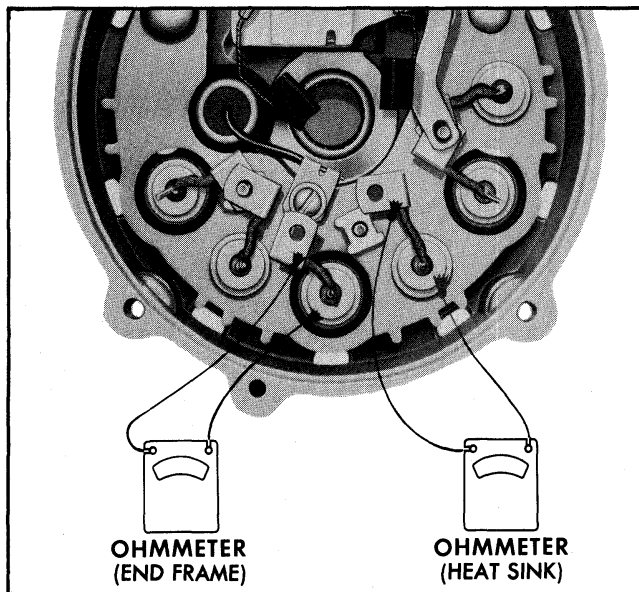

Fig. 11-22 Checking Diodes
1. With the stator disconnected, check a diode in the heat sink by connecting one of the ohmmeter leads to the heat sink, and the other ohmmeter lead to the diode lead and note reading, (see Fig. 11-22).
1. To check a diode mounted in the end frame, connect one of the ohmmeter leads to the end frame and the other ohmmeter lead to the diode lead and note reading (see Fig. 11-22).